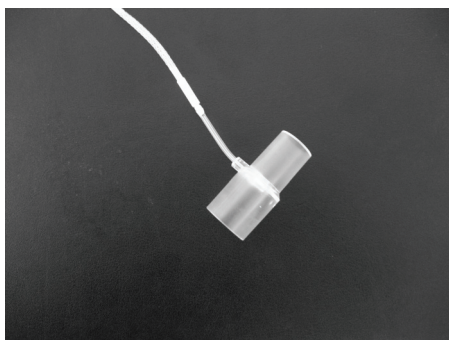

Figure 3-4. Disconnection of the sidestream sensor for calibration
- To calibrate the sidestream sensor disconnect the adapter from the patient circuit (Figure 3-4).